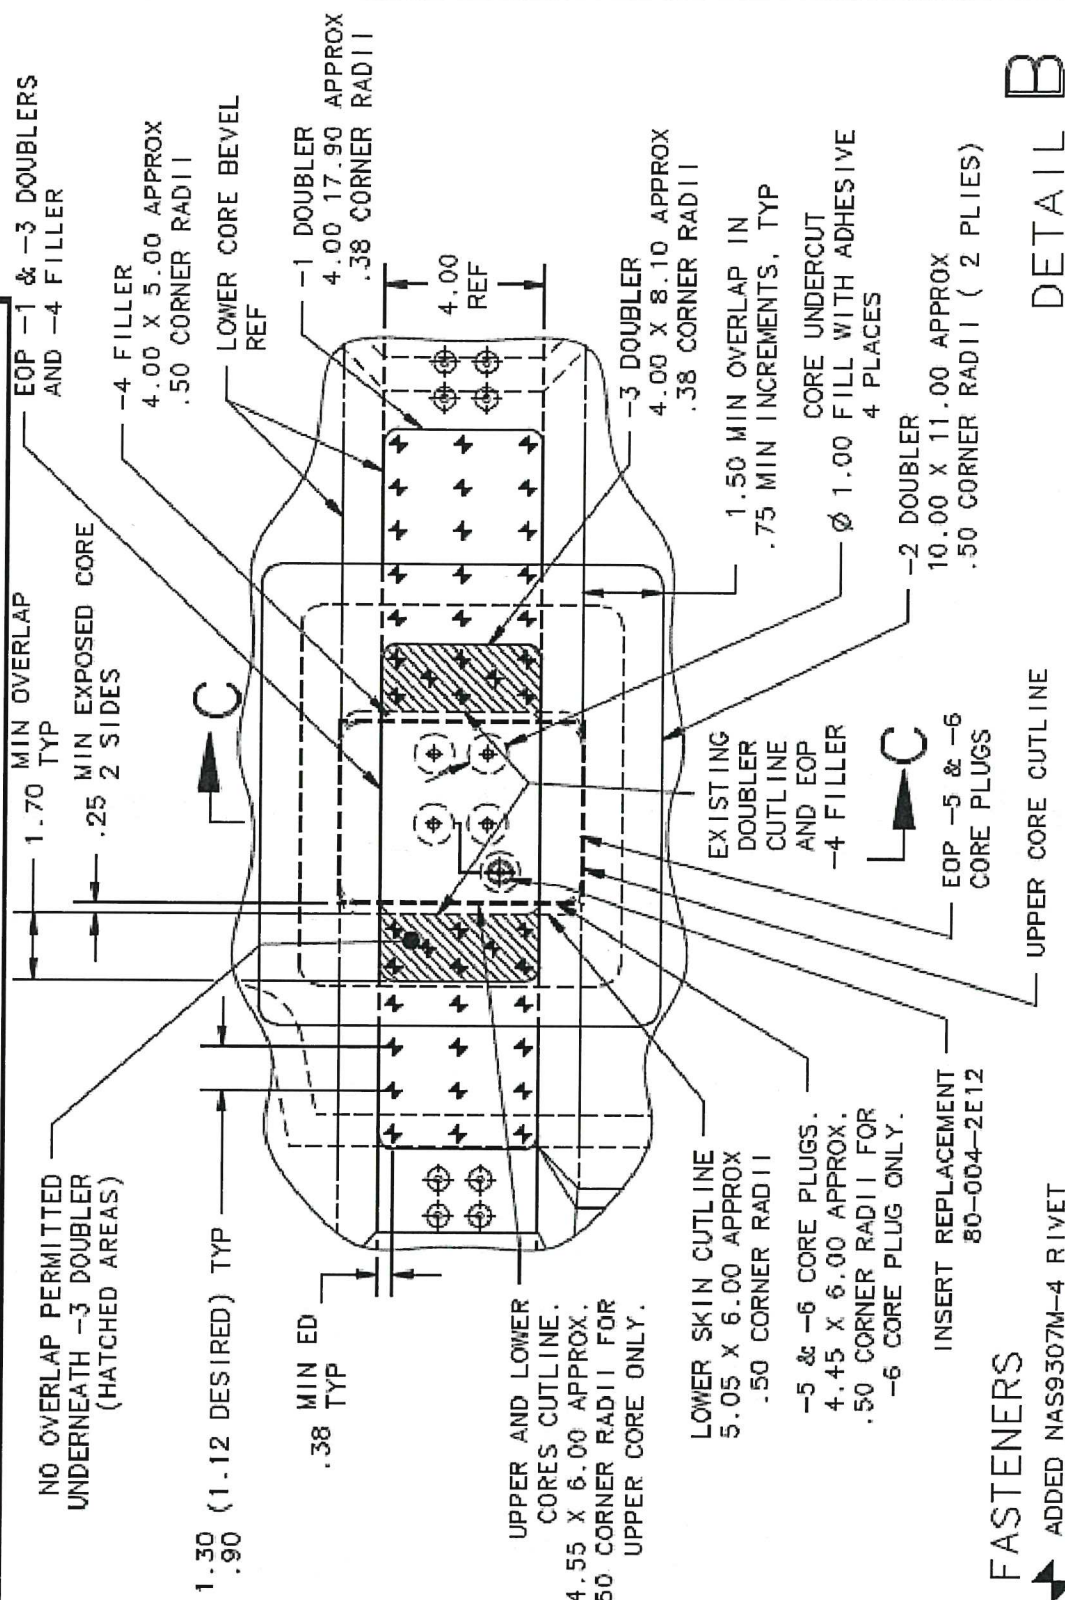
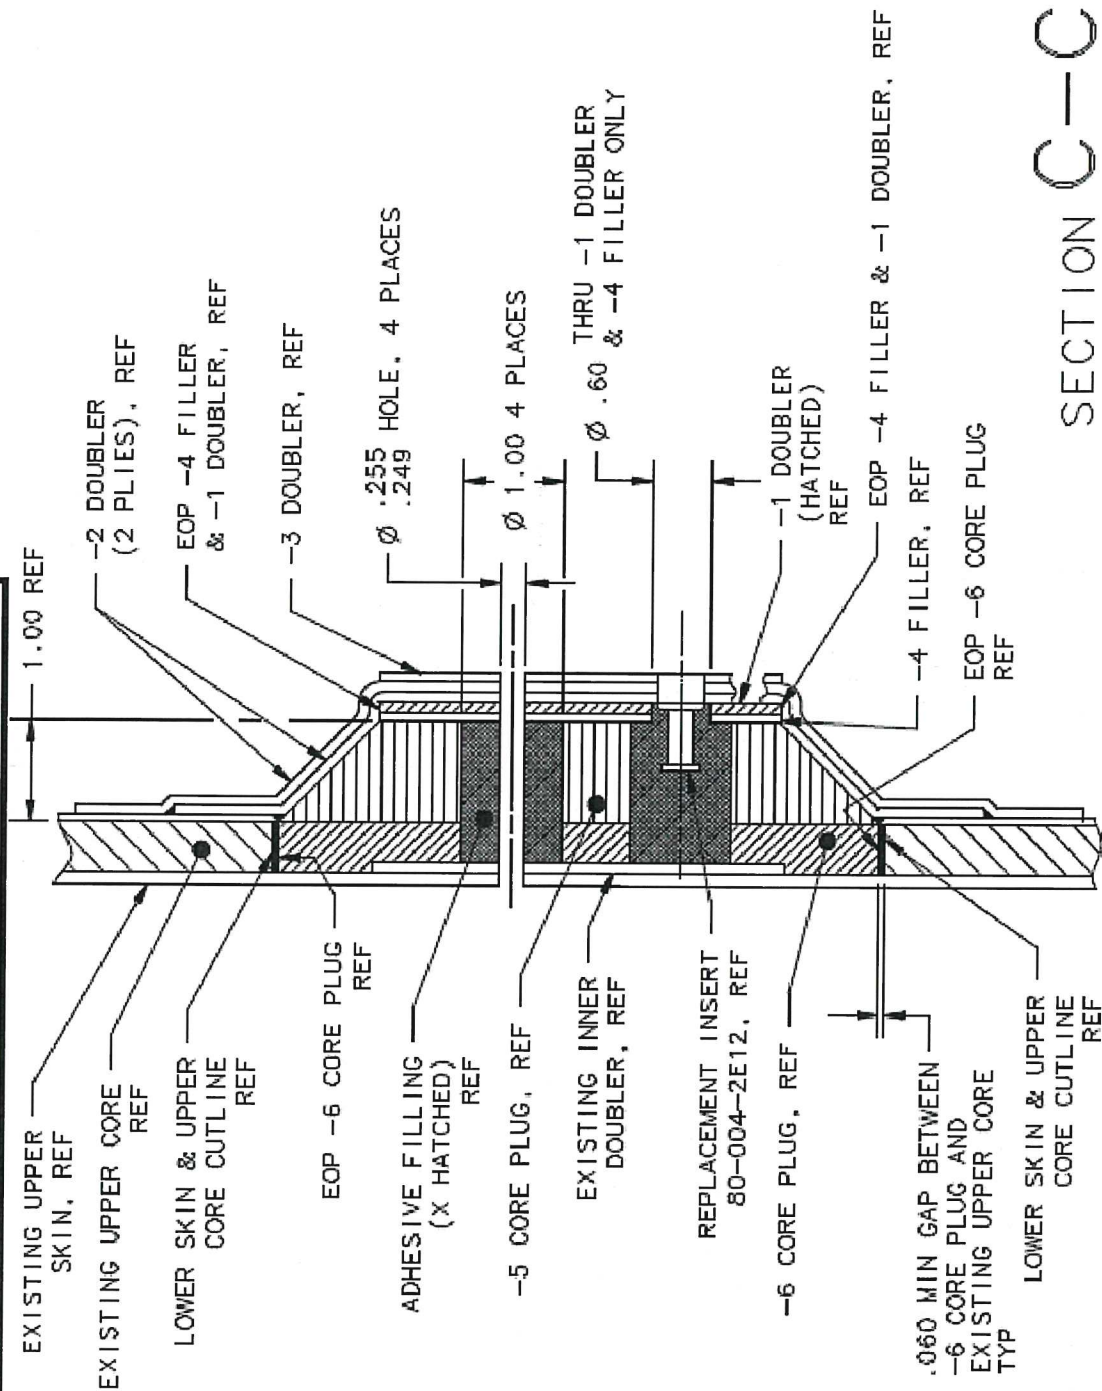

FIGURE 4
FIGURE 5
Secure -1 doubler using NAS9307M-4 fasteners as shown in Detail B, Figure 4, grip length to suit.
16. Fill (Qty. 4) core cavities with adhesive at (Qty. 4) engine mount bolt hole locations from upper skin using -7 general purpose bonding adhesive as shown in Detail B, Figure 4. See Section C-C, Figure 5.
20. Notes: Remove wrinkles from repair ply using a spatula. Remove entrapped air bubbles after each ply using a spatula or rubber squeegee. Fill all gaps with -8 wet lay-up adhesive. No overlap permitted underneath -3 doubler as shown in Detail B, Figure 4.
Locate and bond 1st ply of -2 doubler (2 plies) in position using -8 wet lay-up adhesive. Repeat for 2nd ply, allowing for a minimum of 0.75 inch overlap as shown in Detail B, Figure 4. See Section C-C, Figure 5.
- Locate -3 doubler in position and using template fabricated in step 10, transfer rivet holes full size as shown in Detail B, Figure 4, maintaining proper edge distance and spacing. Refer to Table 3-28 of BHT-ALL-SRM for appropriate fastener hole sizes.
- Secure -3 doubler using NAS9307M-4 fasteners as shown in Detail B, Figure 4, grip length to suit.
32. Transfer (Qty. 4) 0.249/0.255 inch diameter engine mount bolt holes thru all repair parts as shown in Section C-C, Figure 5.